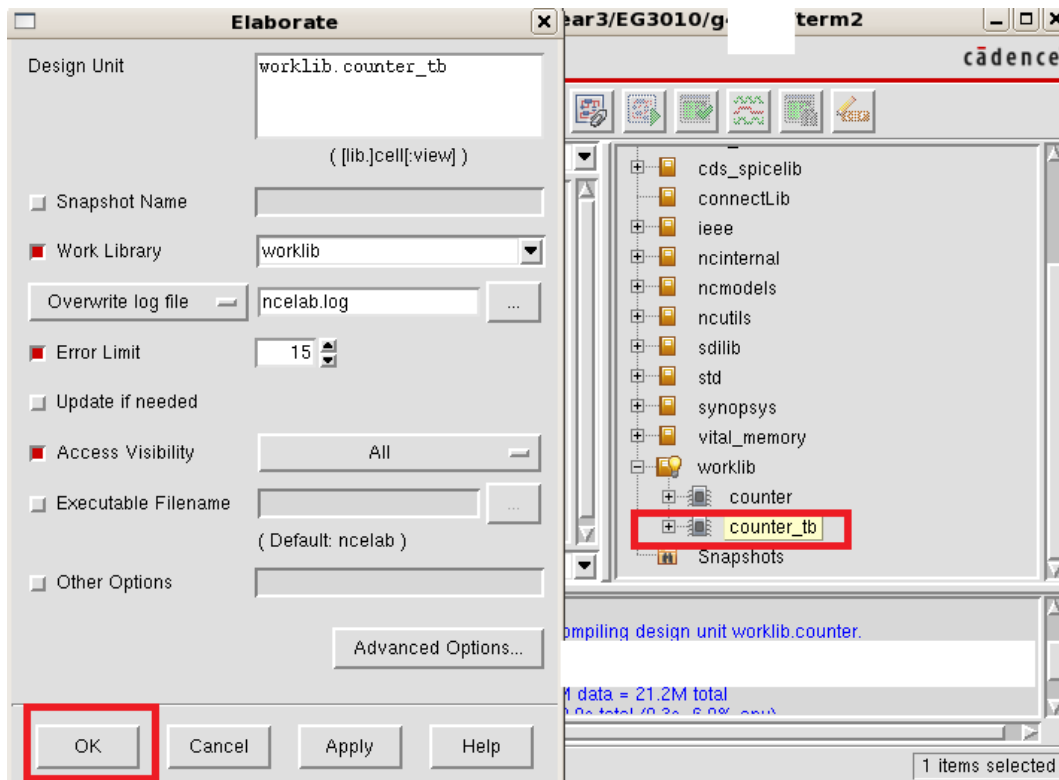

Figure 5 NCElab Window
6. Select **worklib/counter_tb** (as shown in Figure 5). **Right-click**→**NCElab**. Then click **OK**. This will link up all the related compiled modules for simulation.